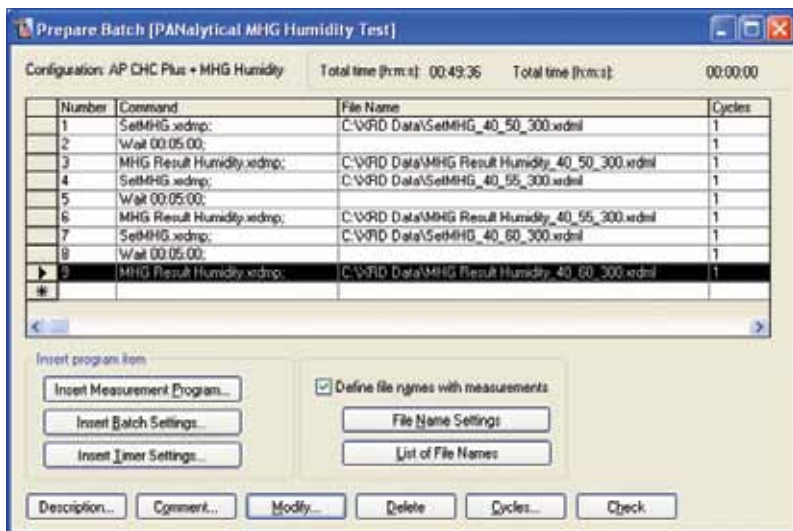

Figure 46. Example of a General batch program simulating the non-ambient parameters for the sample stage AP CHC Plus + MHG Humidity Generator.
The last measurement program combines all the necessary dummy programs simulating the non-ambient settings with the desired result measurements, see Figure 46.
9. Repeat steps 4 to 8 and build up your non-ambient program, see for example Figure 46.